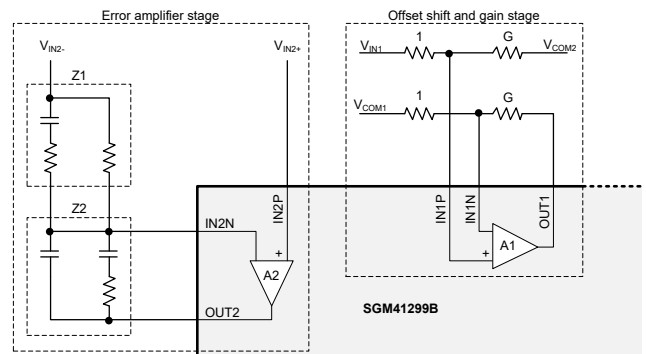

Figure 11. Using SGM41299B Amplifiers
Figure 11 shows an applicable circuit in which A2 is used to make an error amplifier with external compensation network Z1 and Z2, and A1 is used to make a gain (G) stage with level shifting from V_{COM1} at input side to V_{COM2} at output (OUT1). The temperature setting can be fed into either V_{IN2+} or V_{IN2-} and the temperature sensor (for example NTC) can replace one of the four resistors.